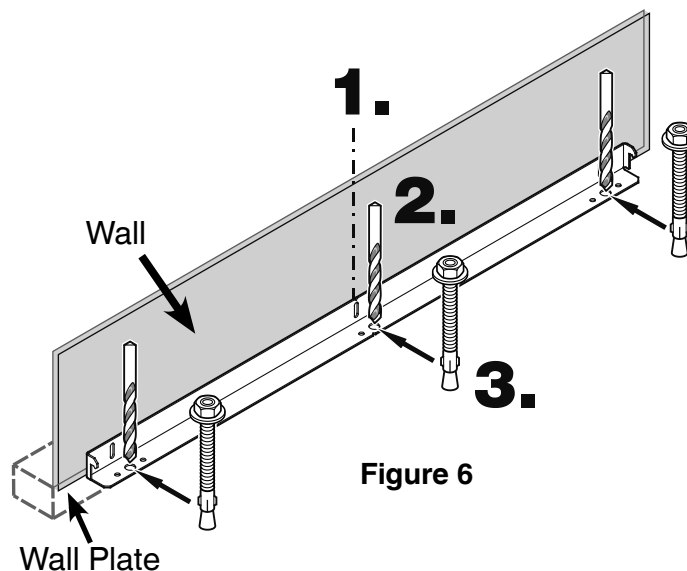

Figure 6
## Mounting the anti tipping device on concrete floors - Figure 6 - 7
2. Drill a 3/8" diameter hole in any position as shown in **Figure 6** using a carbide drill bit.